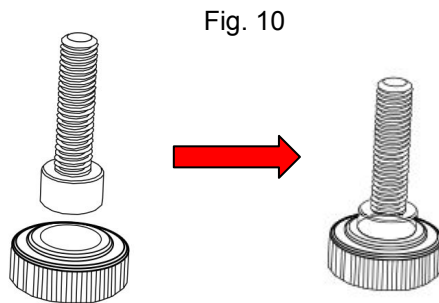

Fig. 10
3. The next step will require using the included four M5 thumb screws. Place the thumb caps on the screw (see Fig. 10).